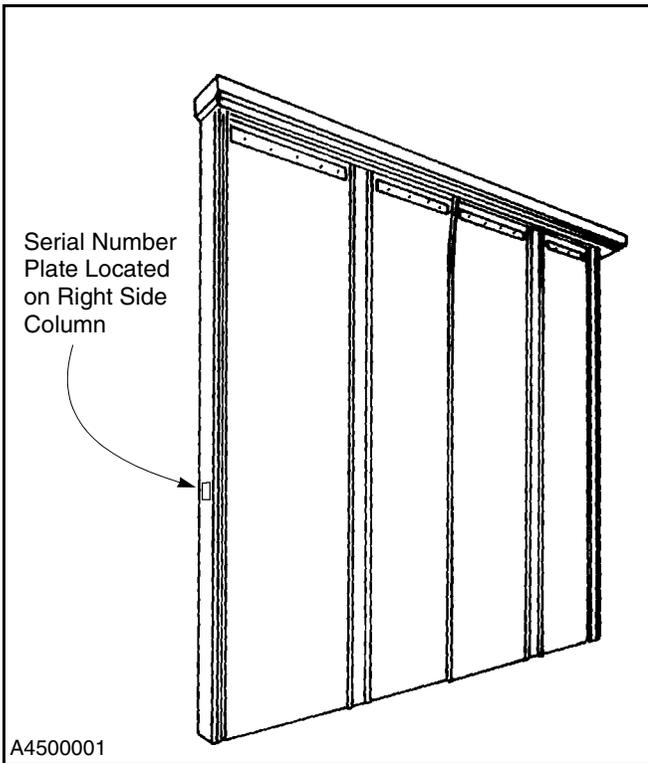

Figure 51
3. To ensure the correct parts are shipped, please include the serial number of your door with the order. The serial number is located inside one of the side panels. (See Figure 51.)